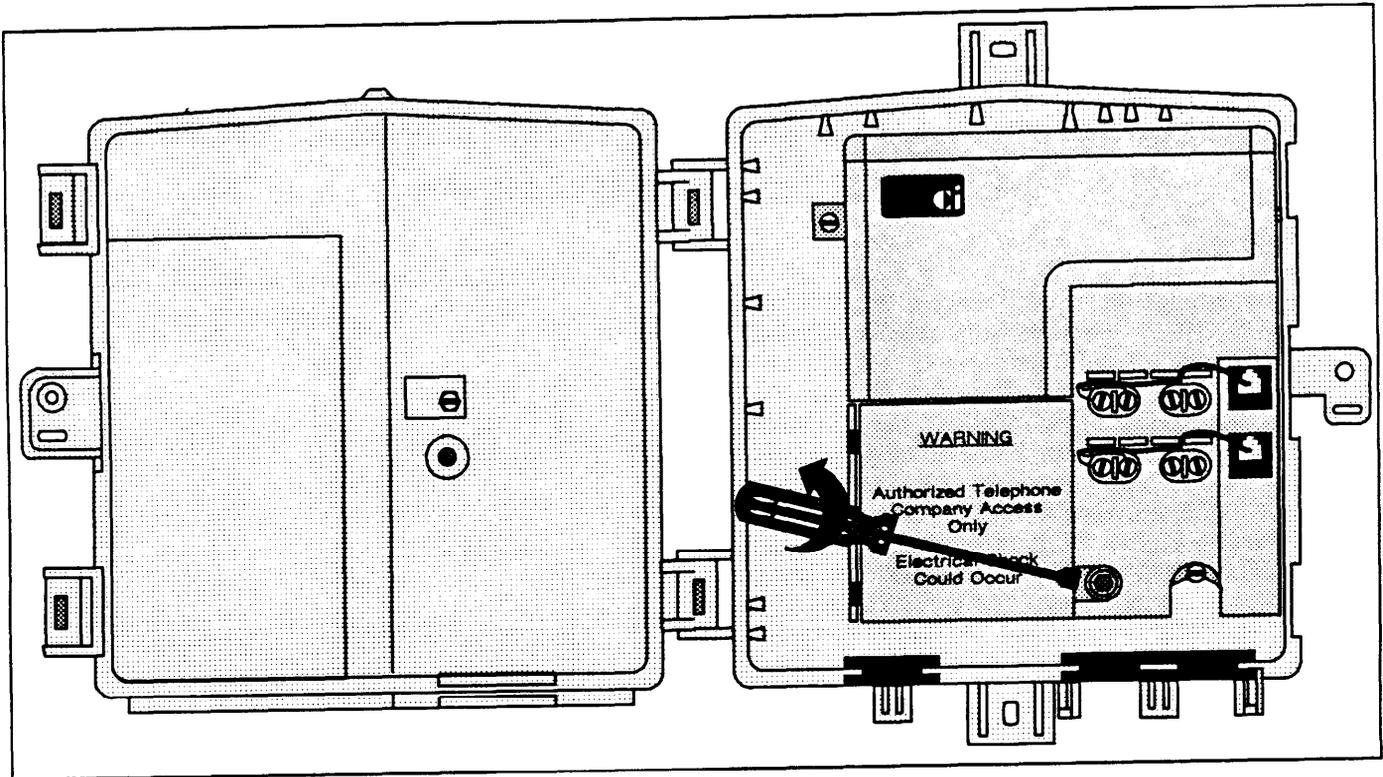
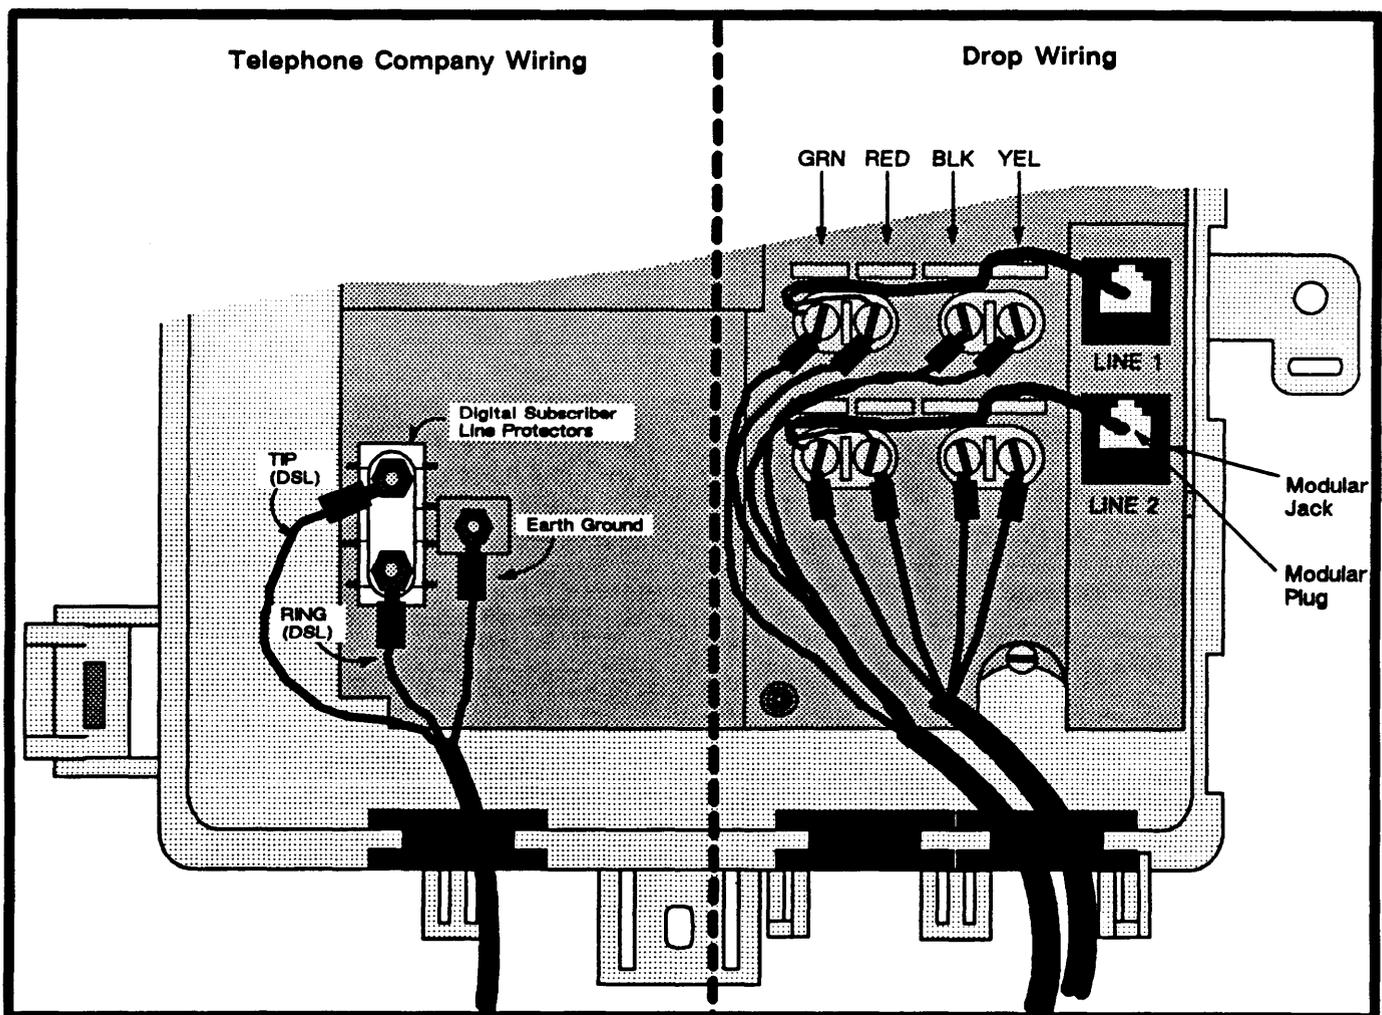

Figure 3. DDL112 in the Open Position
Figure 4. Partial Drawing of Remote Terminal Enclosure Showing Wiring
When mounting of the RT enclosure is completed, run the 2W Digital Subscriber Line cable, an earth ground wire, and the subscriber drop wires to the RT mounting location. Refer to Figure 4.
Connect the 2W Digital Subscriber Line And Ground Cables (Refer To Figure 4).
- (1) If not already opened at this time, open the internal TEL. CO. access cover by turning the 1/4-inch hex nut counter-clockwise. Refer to Figure 3.
- (2) Pull the 2W Digital Subscriber Line and ground cables through the left side opening. Allow extra cable inside the enclosure for a service loop (this will provide strain relief).
- (3) Connect the 2W Digital Subscriber Line and ground cables to the protector unit terminals as shown in Figure 4. Tighten all terminal screw connections.
- (1) Pull the subscriber's drop wires through the right side opening. Allow extra cable inside the enclosure for a service loop (this will provide strain relief).
- (2) Properly terminate the drop wires on the LINE 1 and LINE 2 terminal blocks as shown in Figure 4. Tighten all terminal screw connections.
- (5) Close both the internal and external TEL. CO. access covers by reversing procedure in shown Figure 3.